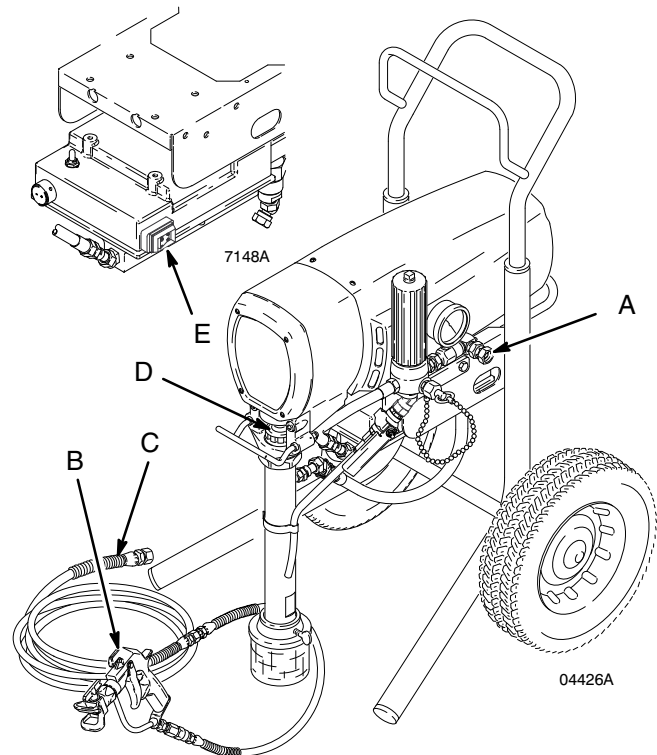

Fig 2
3. Never install any shutoff device between the filter and the hose. See A, Fig. 2.
1. Connect gun (B) and 15 m hose (C). Don't install the spray tip yet. See Fig. 2.
2. Fill wet-cup (D) 1/3 full with Graco Throat Seal Liquid, supplied.
4. With switch (E) to OFF, plug power supply cord into grounded electrical outlet located at least 6 m away from spray area.